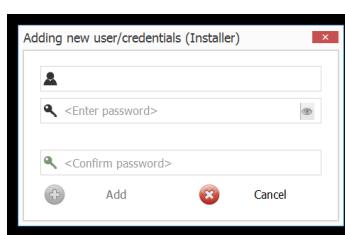

Fig. 7 Adding new user/credentials window during firmware instalation
2. Install Medima Toolbox on the PC. At the end of the installation process you will be asked to create new user credentials for the installer (see Fig. 7).